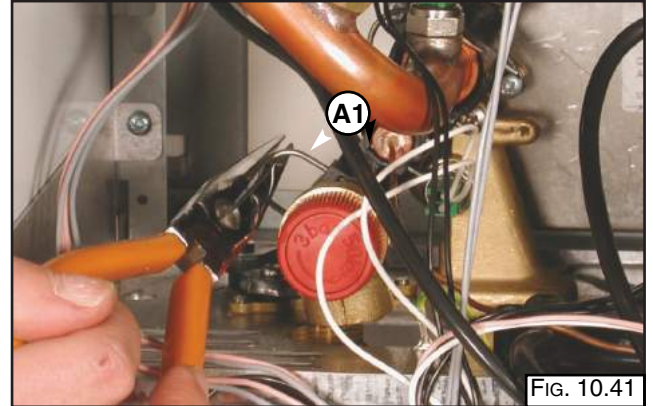

FIG. 10.41
2. Unscrew and remove the valve "A1" (Fig. 10.41).